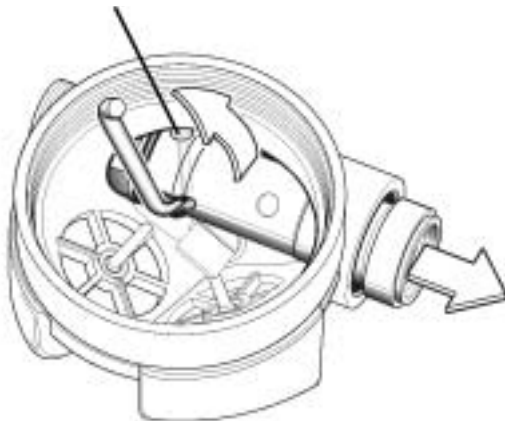

Figure 21 - Removal of lever
8. Apply a 1/8" blade screwdriver to the slotted head of the white adjustment screw (11) and turn it counterclockwise to loosen and remove. Remove the small red washer (12) from the stem of the adjustment screw. Inspect these items for any signs of damage. If found, discard the damaged part and do not reuse.
9. Remove the poppet spring (13), and examine it closely through a magnifier. Discard if it is found to be damaged or corroded.
10. Before proceeding, stand the lever (5) up and out of the box bottom, and ensure that it is kept standing while performing the following step.
11. While holding the box bottom secure, press against the male threaded inlet side of the valve body (23) until the head of the lever retaining pin (6) is visible (see Figure 21). Turn the box bottom over to drop out the pin, and then remove the lever. Inspect the lever and pin for any signs of bending, distortion, or excessive wear of the plating. If any of these conditions are found, discard and do not attempt to reuse.